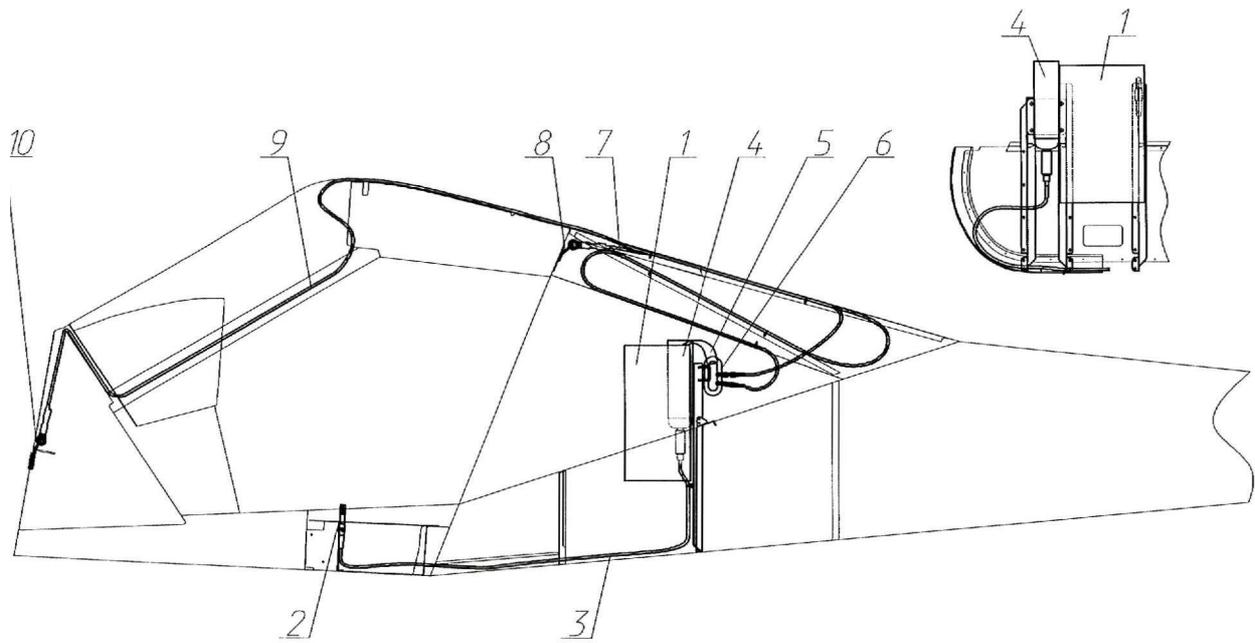

Fig. 20 Recovery system
Installation of the recovery system is shown on **Fig. 20**. The parachute packed into a soft container (1) is located behind the baggage compartment. To deploy the system pull the handle (2) of the ejection device connected with a cable (3) to the rocket housing (4). That launches the rocket which pulls out the parachute, attached with a rope (5) via a carbine (6) to the cables (7) and (9) fastened to the attachment points (8) and (10). The locations of the attachment points and the cables' length are selected so that the aircraft when descending with deployed parachute is suspended in a certain attitude (wings level, nose lowered). Such attitude ensures a high level of safety to pilots during emergency landing despite the fact that the aircraft structure is likely to be damaged while absorbing the impact at touchdown.